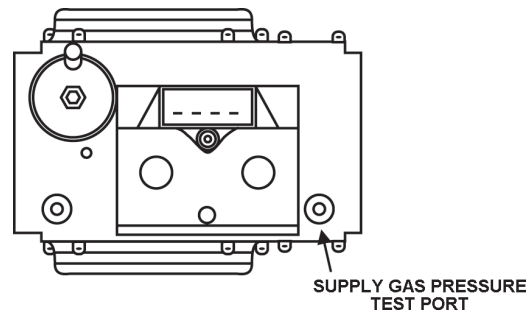

FIGURE 22. – TOP VIEW
4. Wait five (5) minutes for any residual gas to clear.
5. Open the Supply Gas Pressure Port on the gas valve by turning the center screw counter-clockwise. Connect the manometer to the supply gas pressure test port, see Figure 22 on page 25.